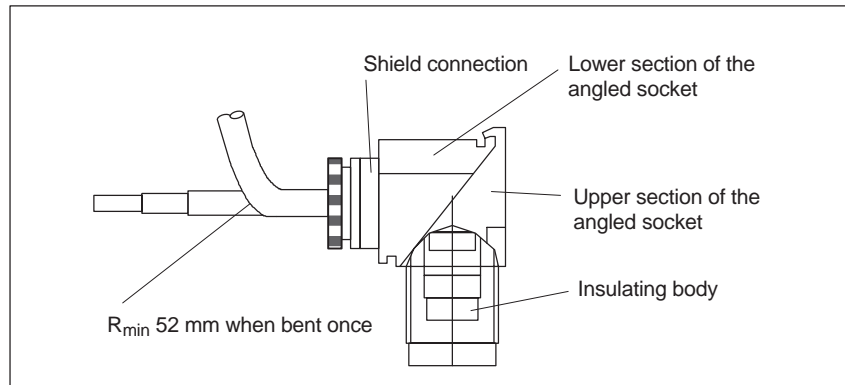

Fig. 3-2 Flange-mounted socket
- Mount the flange-mounted socket (Fig. 3-2). Detailed mounting instructions are included in the package of loosely supplied parts.